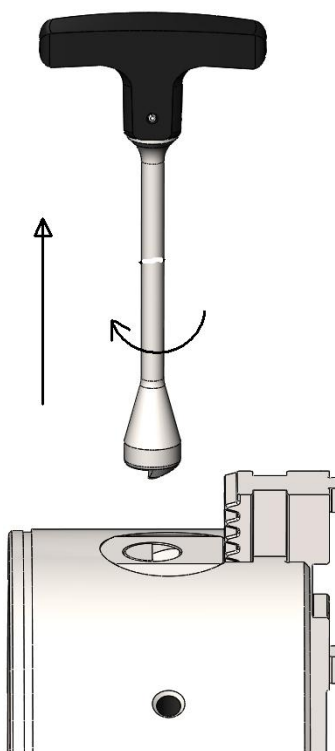

Fig. 16. Jaw lock
- turn the key by 90° in the other direction (clockwise) to lock the jaw position and remove it from the base jaw, Fig. 16.